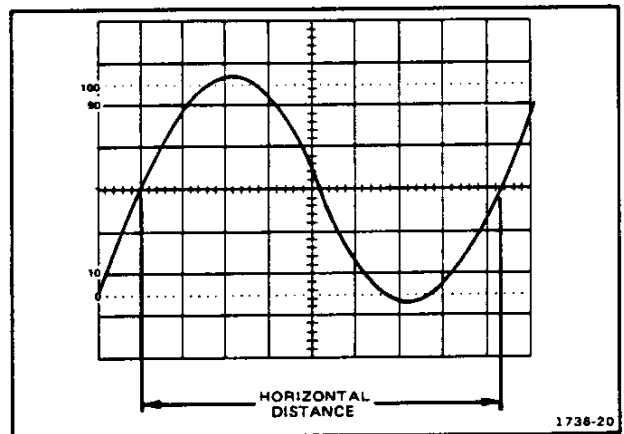

Figure 15. Time duration.
5. Position the display to place the time-measurement points on the center horizontal graticule line (see Figure 15).
**EXAMPLE:** The distance between the time-measurement points is 8.3 divisions (see Figure 15), and the A SEC/DIV switch is set to 2 ms. The X10 Magnifier switch is pushed in (1X magnification).
**EXAMPLE:** The signal in Figure 15 has a time duration of 16.6 ms.